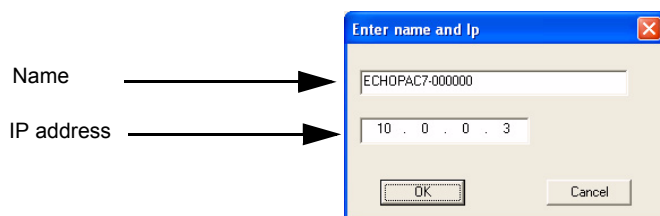

Figure 3-130 Edit Name and/or IP address
c.) Edit the name and/or the IP address of the server, see Figure 3-130.